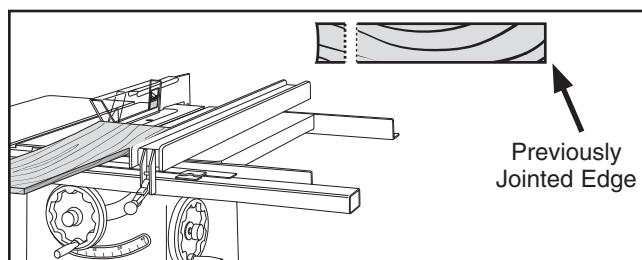

Figure 39. Rip cutting on a table saw.
4. **Rip Cut on a Table Saw:** The jointed edge of the workpiece is placed against the table saw fence and the opposite edge is cut off (see Figure 39).